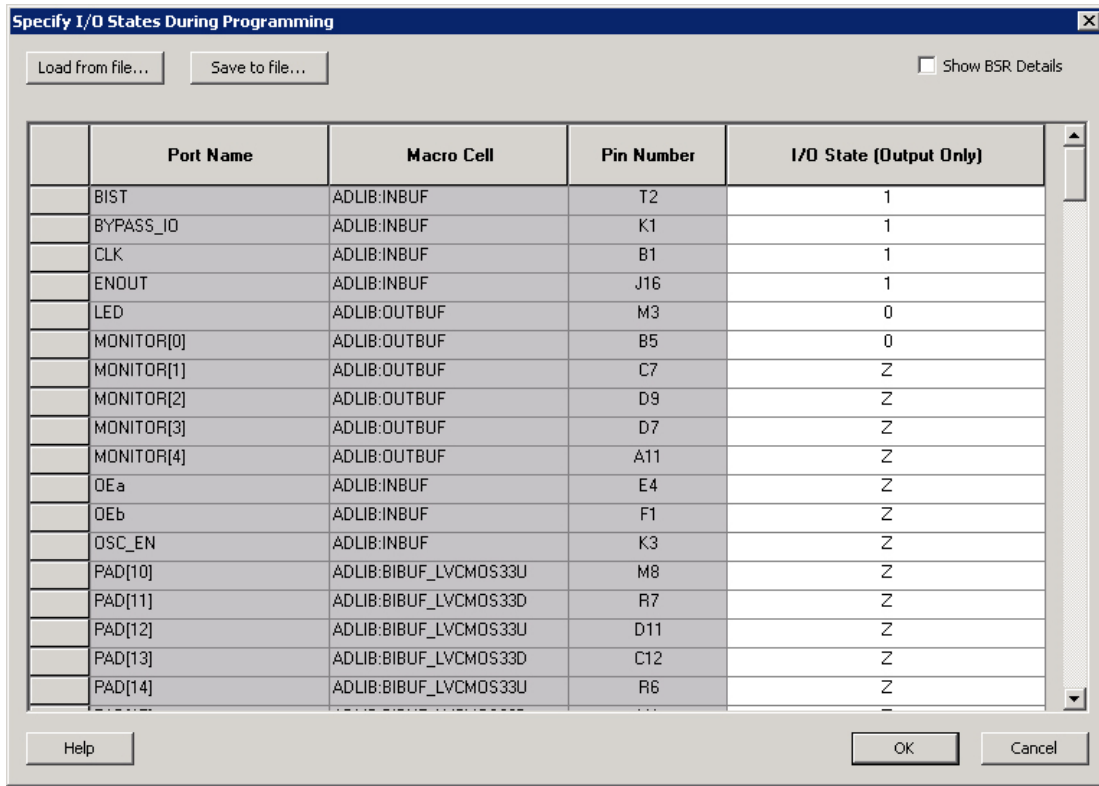

Figure 1-3 • I/O States During Programming Window
4. Sort the pins as desired by clicking any of the column headers to sort the entries by that header. Select the I/Os you wish to modify (Figure 1-3 on page 1-7).